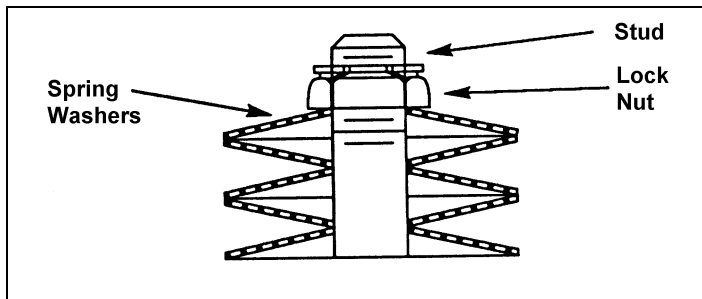

Figure 2— Spring Washer Arrangement
- Assemble the cover, pointer and wrenching square. Place the spring washers on the stud as shown in Figure 2. Screw the lock nut down the plug stud until it is tight and the spring washers are completely compressed, then back the nut off one full turn.